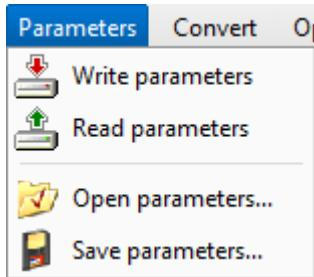

Fig. 4.14. The Parameters drop-down menu
6. Use the “Read parameters” in the Parameters menu (see Fig. 4.14) to read current device settings. After this step, all GUI settings become active, allowing users to view and modify settings for the connected device.
12. To apply settings/parameters, load them into the device memory. To do so, use the “Write parameters” item under the Parameters menu (see Fig. 4.14).
Important: After changing any device settings/parameters within the IMU GUI, write them into device memory. To do so, use the “Write parameters” option in the Parameters menu (see Fig. 4.14). Otherwise, the changes will not be applied.
13. To apply settings/parameters, load them into the device memory. To do so, use the “Write parameters” item under the Parameters menu (see Fig. 4.14).
The “**Parameters**” menu (see Fig. 4.14) enables the user to work with the device’s internal parameters. This menu contains the following items:
2. *After changing any settings/parameters in the menu, by clicking on the “OK” button, it is possible to see information about which parameter was changed and its initial and final value for checking. After that, you must write them into the device memory so they make an effect (or save them in a file). Otherwise, the changes will not be applied. To do so, use the “Write parameters” item under the Parameters menu (see Fig. 4.14).*